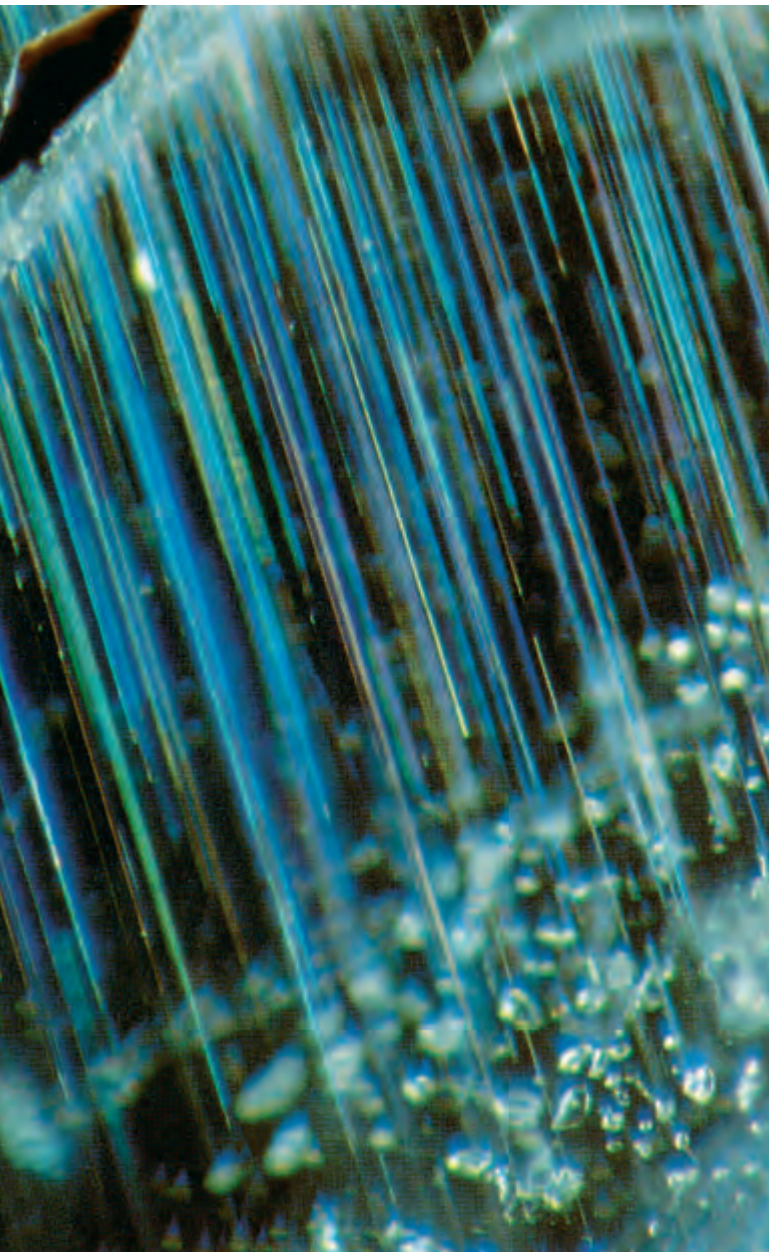

Fig.40: Hollow growth channels ("rain") in an aquamarine, magnification 35x. Photo source:
**Dark-field microscopy** is ideally suited for especially close examination of transparent or low-contrast inclusions. In this case the directly transmitted light is blocked and the stone only illuminated from the side (Figure 37b). This side light is reflected and scattered at the inclusions, thus making them particularly visible. As a result, a bright image is created against a dark background. Examples of this investigation method are shown in Figures 40 and 44.
When microscopic examination is conducted with the aid of an incident-light device, light is not directed towards the stone from below, but from above or from the side (oblique illumination). This can also be effected in combination with bright-field or dark-field microscopy, as can be seen, for example, in Figure 40. Illumination can be generated by means of an independent illuminating device attached to the microscope, i.e. an LED ring light below the objective, or, alternatively, via a cold-light source with a gooseneck light guide.
If the professional prerequisites are met required level of experience has been acquired, inclusions (or internal structures) are able to provide valuable information about a stone. Figure 40 shows a light blue stone under dark-field microscopy with side illumination.